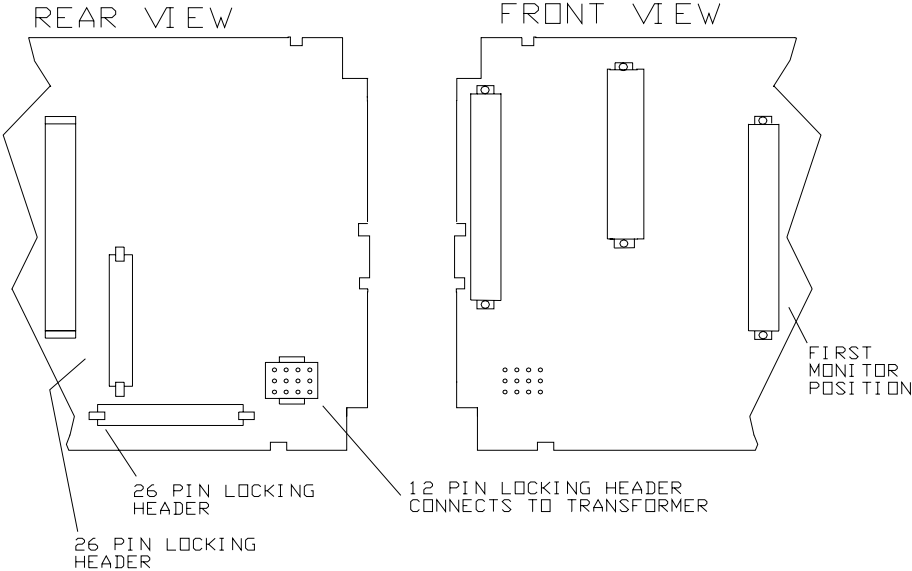

Figure 6
3. Observe the location and position of the connectors on the backplane behind the Power Supply and System Monitor rack slots. Use the front view of the backplane shown in **Figures 6, 7 and 8** to identify your backplane.
Two versions of the backplane may be installed in an original system. Identifying features are shown in **Figures 6 and 7**, below.